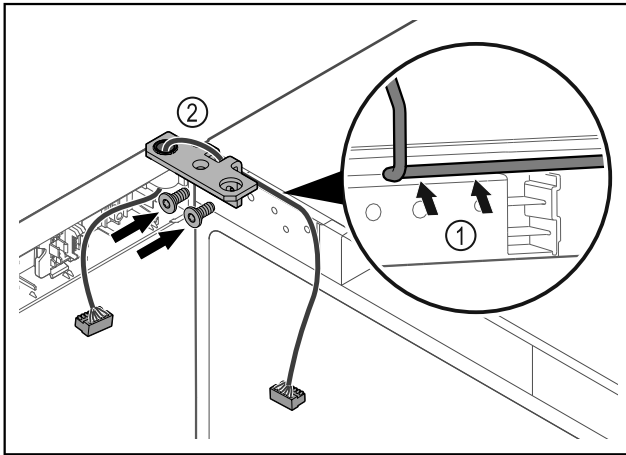

Fig. 43
- Feed the cable through the recess in the hinge and lay it carefully Fig. 43 (1).
- Screw on the hinge Fig. 43 (2).